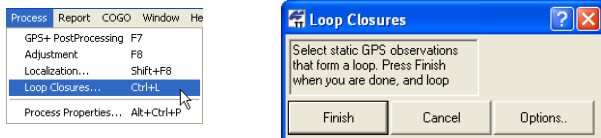

Figure 6-32. Process Loop Closure
1. To generate a loop closure report, click **Process ► Loop closures**. The **Loop closures** dialog box will display (Figure 6-32).